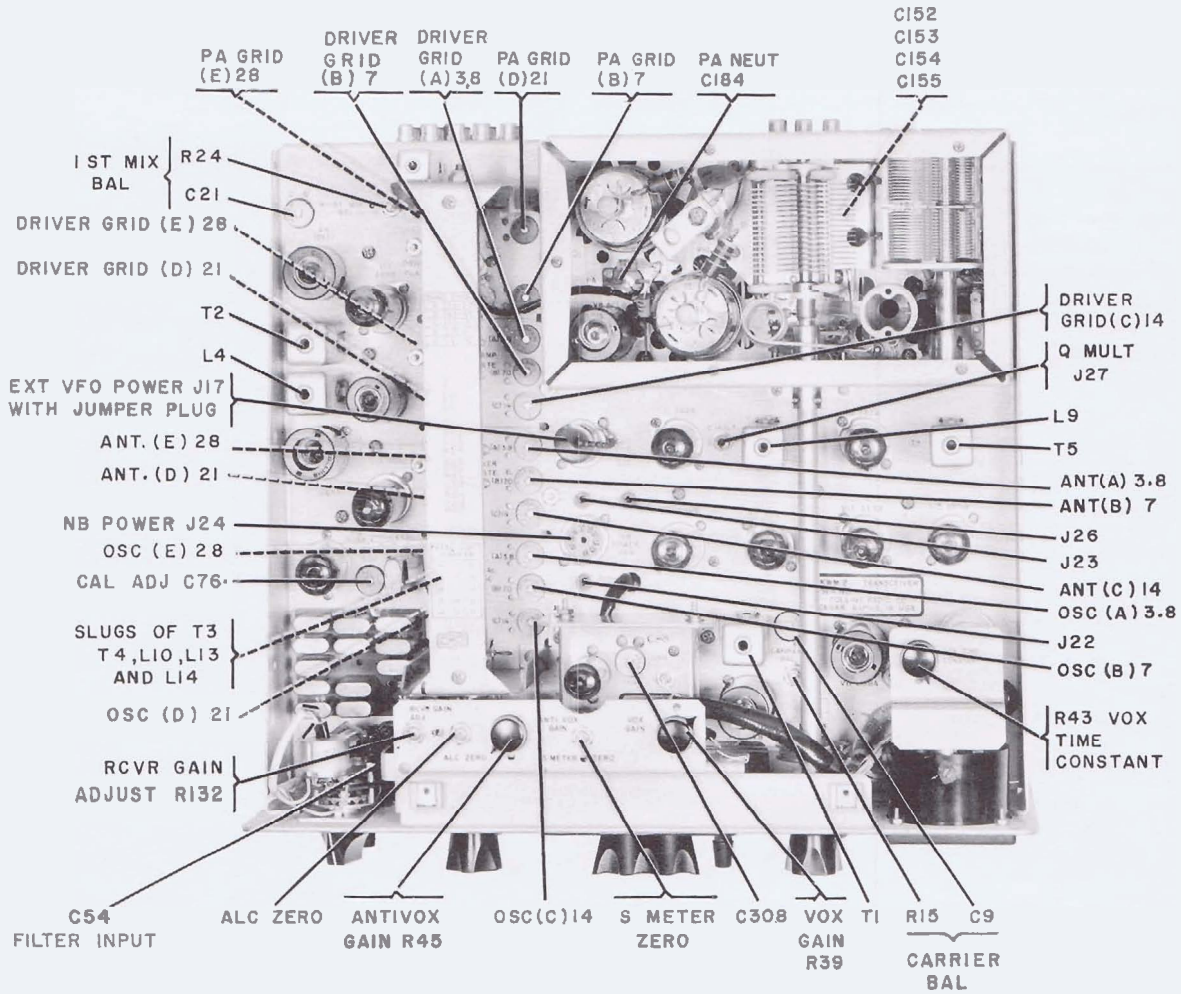

Figure 4-1. Location of Adjustments
at frequencies outside the amateur bands will result in slightly decreased receiver sensitivity and transmitter PA grid drive, unless the tuned circuits of the transceiver are retuned to peak their responses in the desired portions of the high-frequency spectrum. For moderate excursions from the amateur bands the decrease in performance is minor, and realignment of the r-f circuits is usually not necessary unless optimum performance is desired.) Adjustment of the trimmer capacitors only will normally be sufficient to peak the response outside the amateur bands. Figure 4-1 shows the location of these adjustments. The letter portions of the capacitor designations correspond to the frequency ranges listed in the total coverage column of table 2-1. For example, the E trimmers are normally peaked on 10 meters, but may be reset to favor another portion of band E which covers 22.0 to 30.0 mc.
Table 4-1 lists appropriate signal generator connection points and normal signal levels. Figure 4-1 shows
Table 4-2 lists significant test points and normal signal levels. Figure 4-1 shows location of test points and adjustments. All r-f and i-f measurements were made by connecting a vacuum-tube voltmeter to the avc bus and increasing signal generator output until the avc threshold is reached. The avc threshold voltage is the point at which the d-c vtvm indication just changes with increased signal level. The receiver was tuned to 14.1 mc for these measurements and test signal injected at indicated test points. Signal voltage values are taken from signal generator output attenuator. All values are nominal and may vary $\pm 20\%$ without degrading performance.
4.5.1.2 455-KC I-F ALIGNMENT. (Refer to figure 4-1 for location of adjustments.)